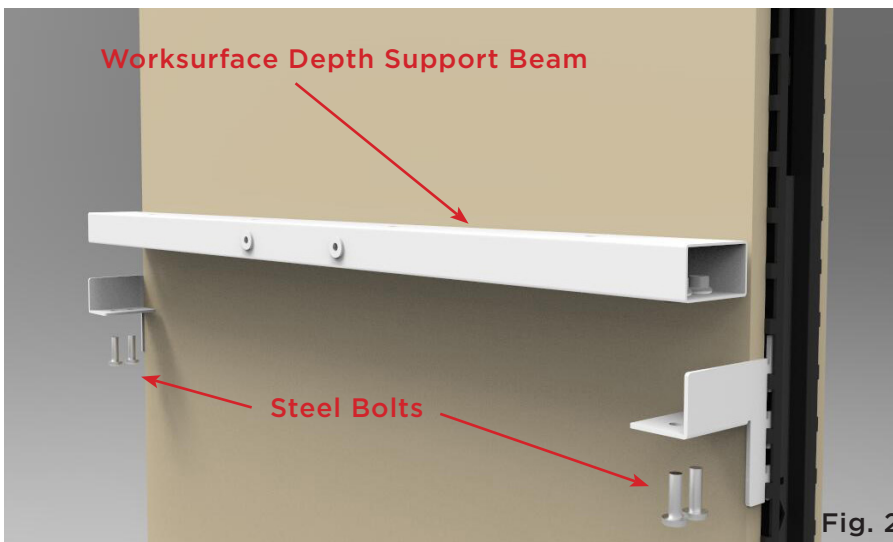

Fig. 2
2. Secure the worksurface depth support beam to the panel brackets using (4) metal bolts provided. See figure 2.